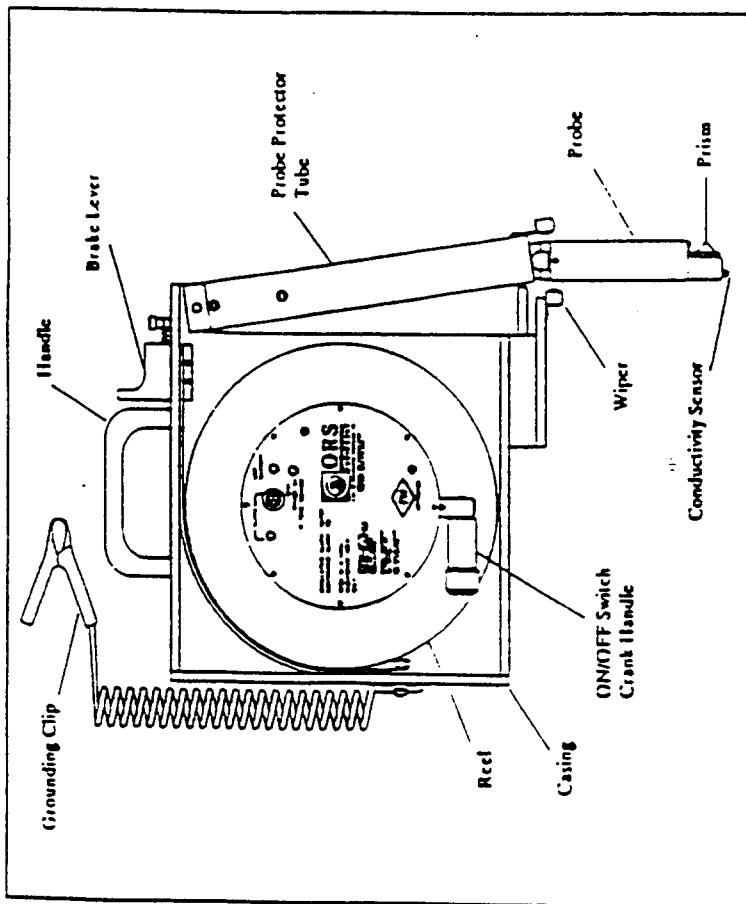

FIGURE 1. THE ORS INTERFACE PROBE.
The Interface Probe consists of an oil/water sensing probe, a measuring tape/probe cable and a housing into which the tape and probe can be withdrawn when not in use. See below for a more detailed explanation of these components, and see Fig. 1, p. 2 for a drawing of the entire assembly.
The components of the weatherproof NEMA 3 housing assembly are shown in Fig. 1, p. 2. The housing includes a casing and reel to protect and deploy the measuring tape and probe. The housing also has a Low Battery indicator, a visual/audible alarm and a test button for the alarm. A grounding clip is attached to the housing.
3.1.1 To turn the unit on, unfold the crank handle away from the reel housing (See Fig. 1, p. 2). This activates a power switch inside the reel.